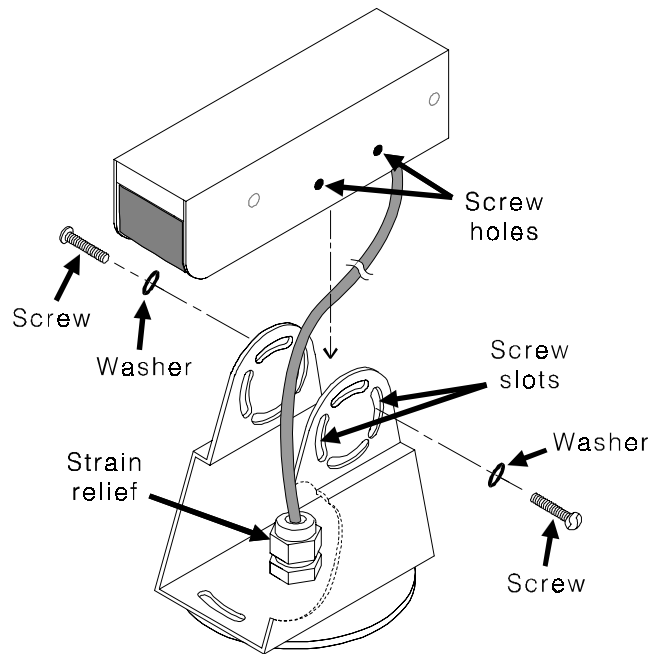

Figure E-5. Mount microphone on bracket
- Position the DM1 Microphone unit between the sides of the bracket and align the two holes in the unit with the two slots on the bracket. Fasten the unit in place with two of the four remaining lock washers and screws, inserting the screws into the holes toward the rear of the microphone as shown in Figure E-5.
- Pull any slack cable down below the mounting surface, leaving just enough to position the microphone as required, and tighten the nut on the strain relief below the microphone as seen in Figure E-5.